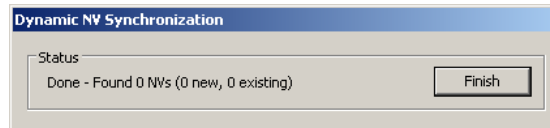

Figure 152: Synchronizing dynamic NVs from the device.
2. Right-click and select **Sync Dynamic NVs** in the context menu. The Configurator then loads any new dynamic NVs, which have been created but are not yet represented by data points on the CEA-709 port. The process completes when the dialog shown in Figure 152 appears.